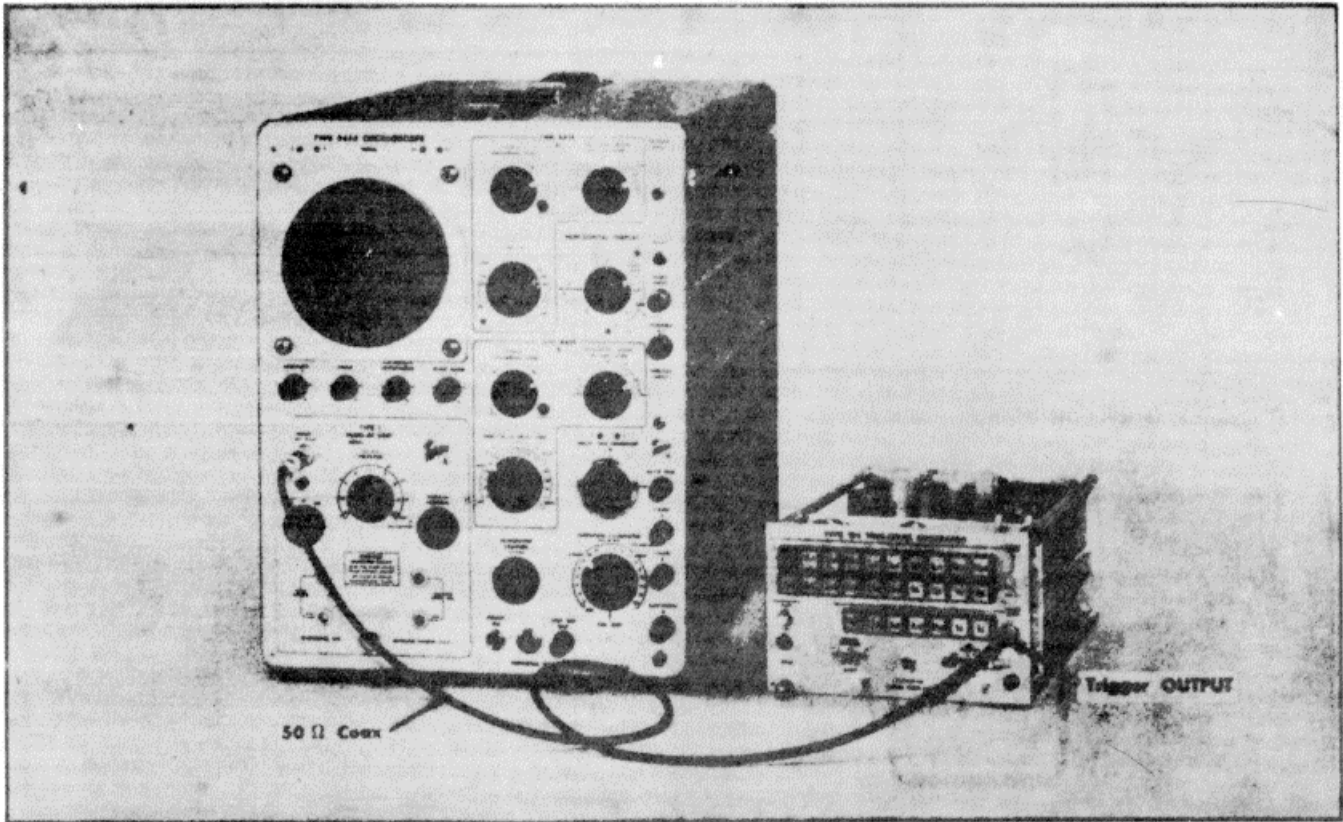

Fig. 6-15. Test equipment setup for checking trigger output amplitude and timing interval. Step 9
- b. Test equipment setup is shown in Fig. 6-15.